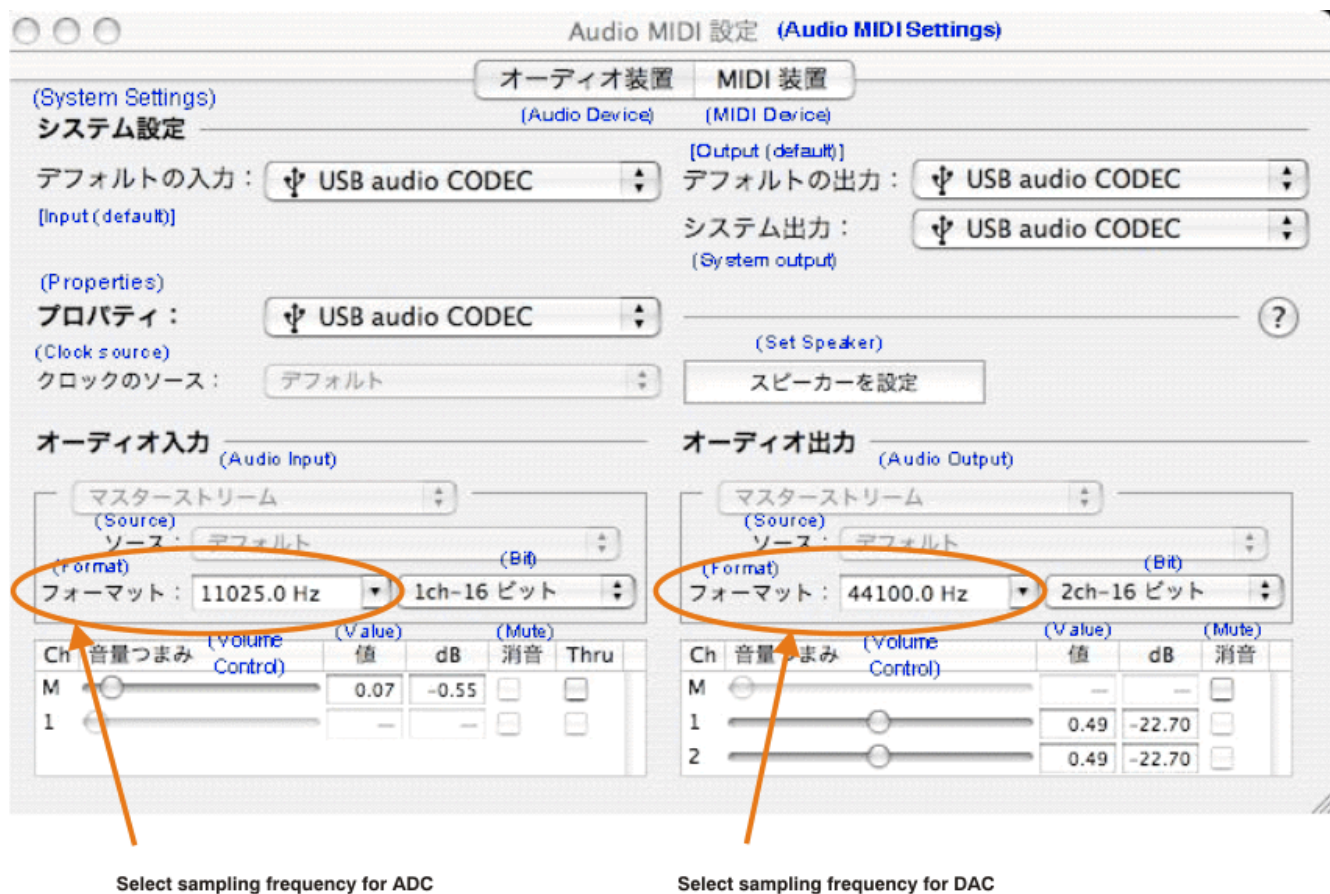

Figure 3-16. Audio Midi Setting Window (Mac OS)
1. Open the *Audio MIDI Settings* options (*Application→Utility→Set Audio MIDI*), as illustrated in Figure 3-16.
2. Select the *Audio Input* tab in the *Set Audio MIDI* options group, as Figure 3-16 shows.
2. Select the *Audio Output* tab in the *Set Audio MIDI* options group, as shown in Figure 3-16.